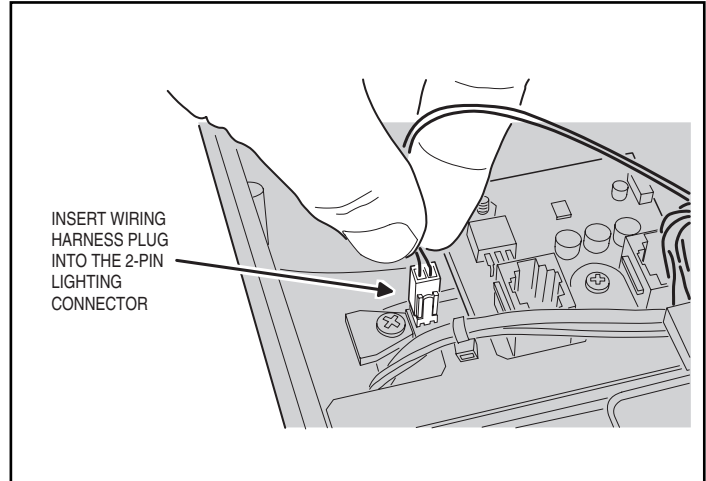

Figure 23. Connecting the Camera's Lighting Power
3. Connect the wiring harness 2-pin lighting power wiring connector onto the camera's infrared lighting power connector (see Figure 23).